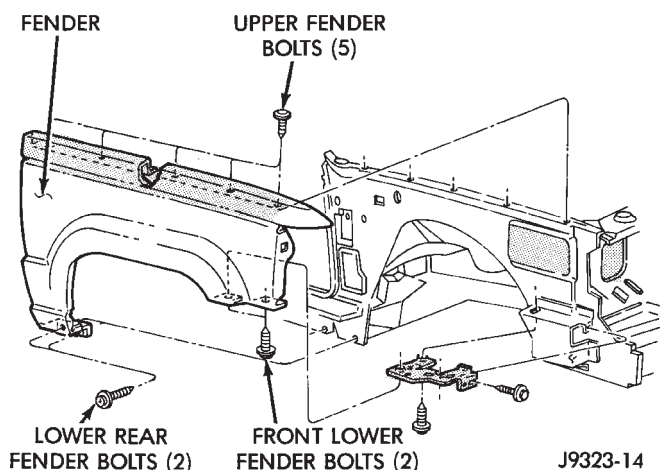

Fig. 24 Fender Mounting
(8) Remove 2 bolts at front fender bracket (Fig. 24).
(9) Remove 2 bolts at lower rear of fender at A-pillar (Fig. 24).
(10) Remove 5 upper mounting bolts at top of fender (Fig. 24).
(11) Remove fender from inner fender.
(1) Position fender on inner fender panel (Fig. 24).